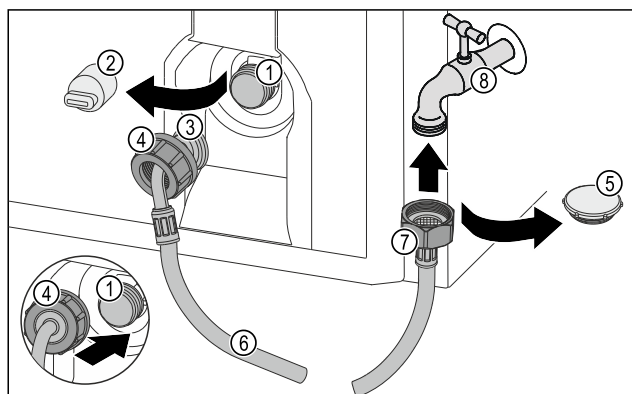

Fig. 27
- ▶ Remove the closure cap Fig. 27 (5).
- ▶ Place the straight end of the hose Fig. 27 (7) on the tap Fig. 27 (8).
- ▶ Tighten the nut at the straight end of the hose Fig. 27 (7) in a clockwise direction.